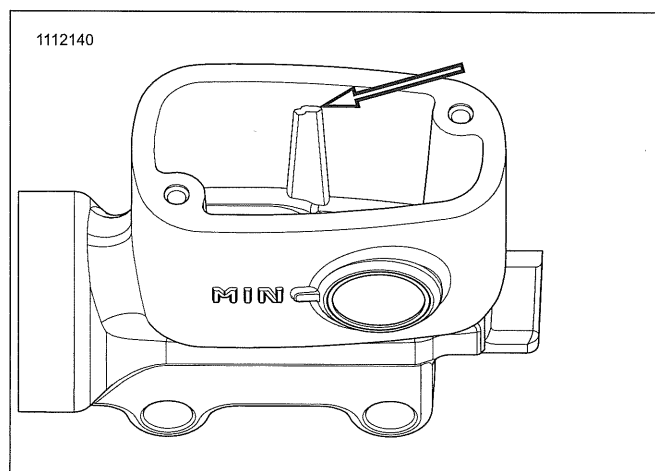

Figure 2-22. Rear Master Cylinder Fill Level
- Rear:** See Figure 2-22. Verify fluid presence. The sight glass (3) appears dark when fluid is present. If necessary, add brake fluid to reservoir.